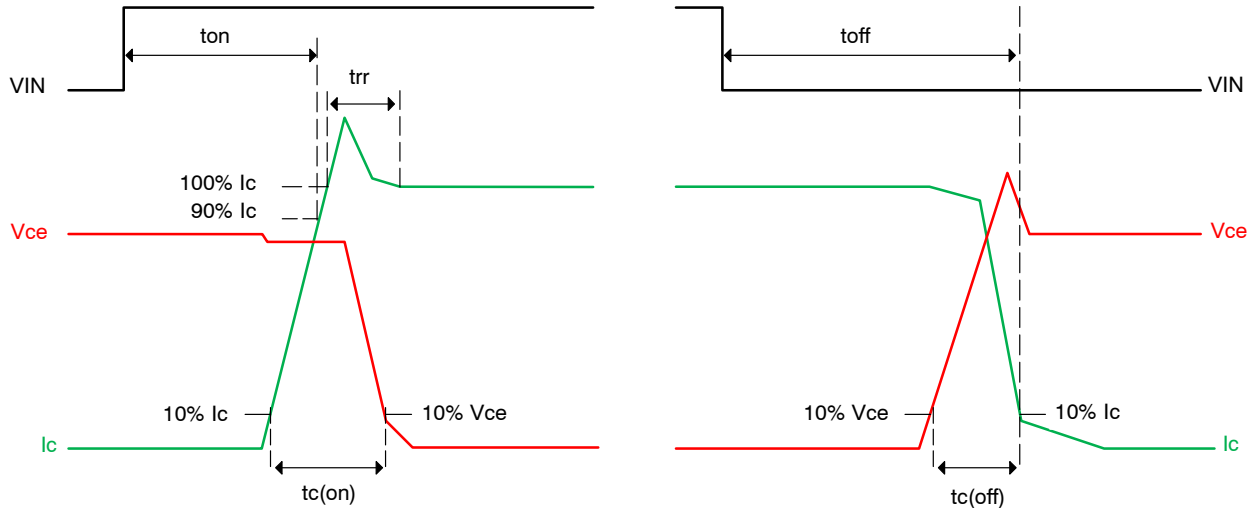

Figure 3. Switching Time Definition
7. t_{ON} and t_{OFF} include the propagation delay time of the internal drive IC. $t_{C(ON)}$ and $t_{C(OFF)}$ are the switching time of IGBT itself under the given gate driving condition internally. For the detailed information, please see Figure 3.